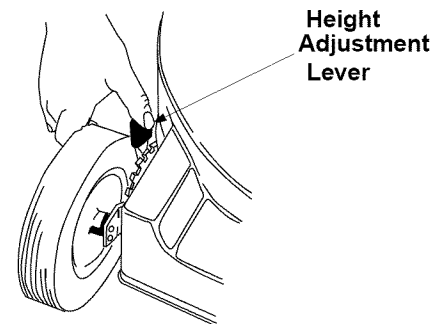

Figure 14
- Simply depress the lever towards wheel and move it to any of the nine positions for the desired cutting height. See Figure 14. All four levers on the four wheels must be placed in the same relative position for uniform cutting height
- Remove the bolt and bell support which hold the blade and adapter to the engine crankshaft. See Figure 14. Remove the blade and adapter from the crankshaft.